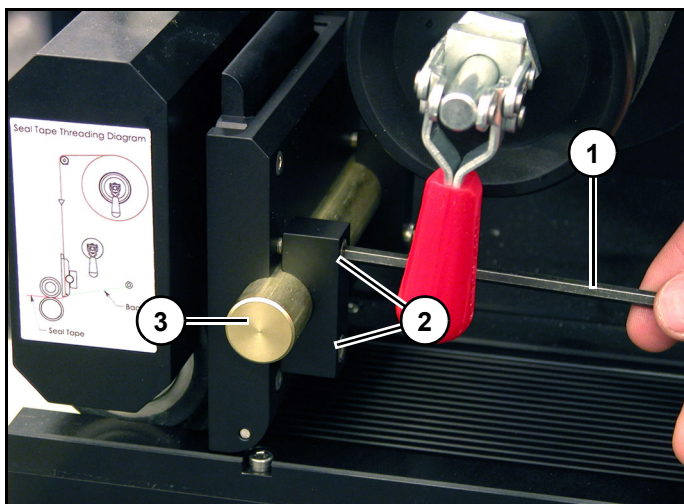

Figure 19
1. Using an M4 hex wrench (1), loosen four bolts (2) to loosen two clamps on seal guide (3). (Figure 19)